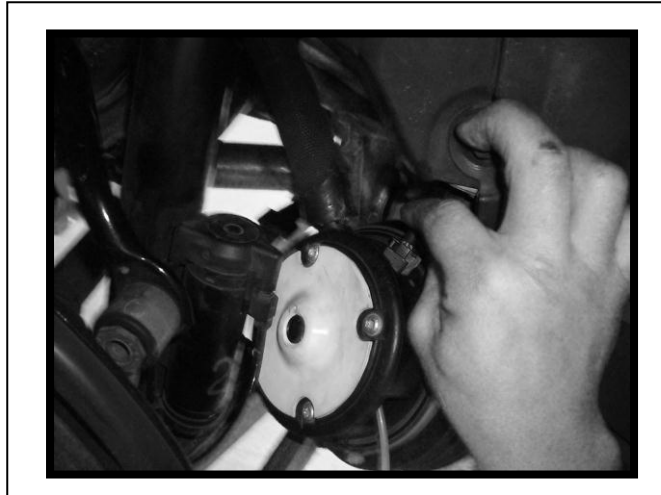

FIGURE 10-2
5.0 DISCONNECT AIR SPRING VALVE WIRING (Figure 10-2).